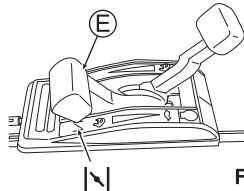

Fig. 11
- 3 Set Throttle lever (E) to Choking "N". (See Fig. 11) (The engine can start by setting the lever at "S" when it is warm.)